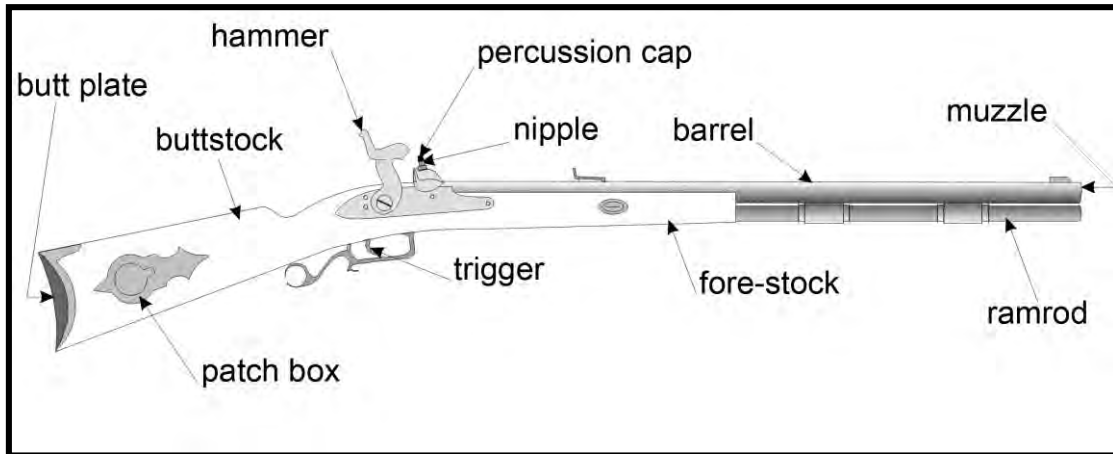

Figure 8. Muzzleloader
- a. Muzzleloading muskets, rifles and shotguns are still in use today. However, most modern muzzleloaders are reproductions of older designs (Figure 8).